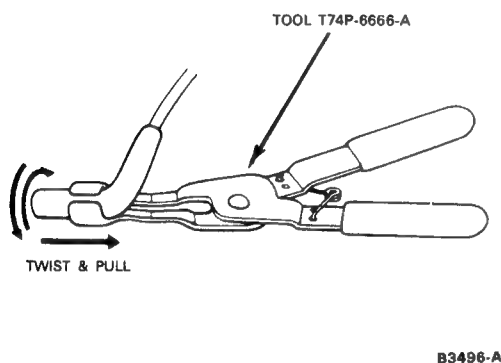

FIG. 17 Removing Wires from Spark Plugs
When removing wire from spark plugs, use Tool T74P6666-A or equivalent. (Fig. 17.) Grasp and twist the molded cap back and forth on the plug insulator to free cap. Use the special tool to pull the cap from the plug. Do not pull on the wire directly, or it may become separated from the connector inside the cap.
- Remove the wire from each spark plug by grasping the molded boot with Tool T74P-6666-A (Fig. 17). Twist the